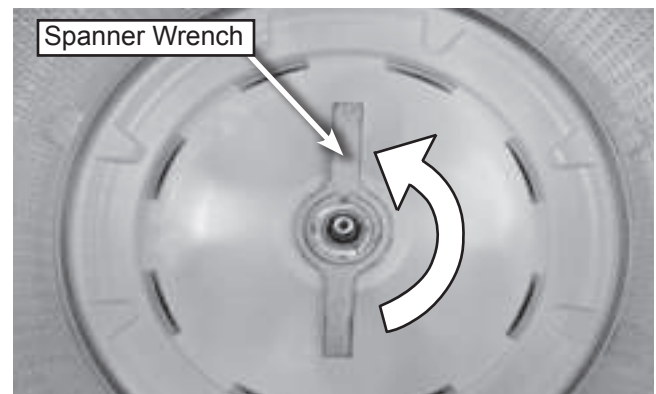

Figure 3
3. Use a spanner wrench and hammer to remove the spanner nut. See figure 3.